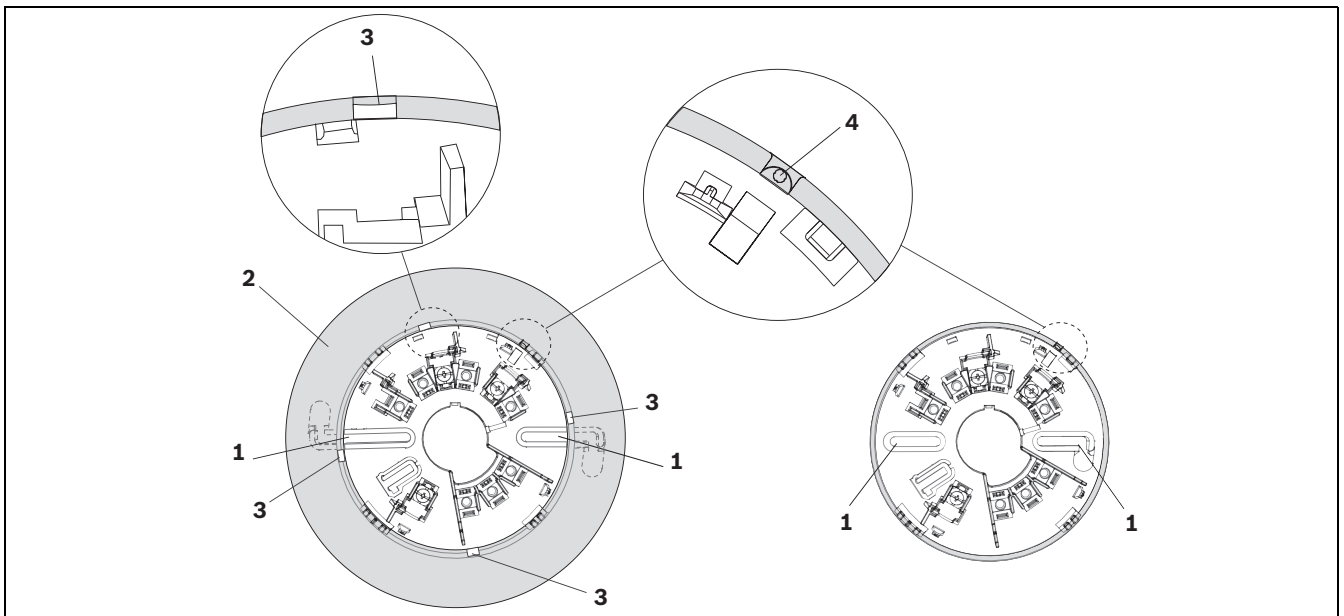

Figure 3.1 6-inch and 4-inch Mounting Bases
1. Mount the base using the two oblong mounting holes (see *Figure 3.1*, Position 1).
Holding a magnet at the test point centered over the semicircle notch on the head (see *Figure 3.1, Page 7, Position 4*) will cause the LED to flash red. If the magnet is held at the indicated location for more than 6 seconds, the unit will send an alarm signal to the panel and the LED will change to steady red until the unit is reset by the panel. If the